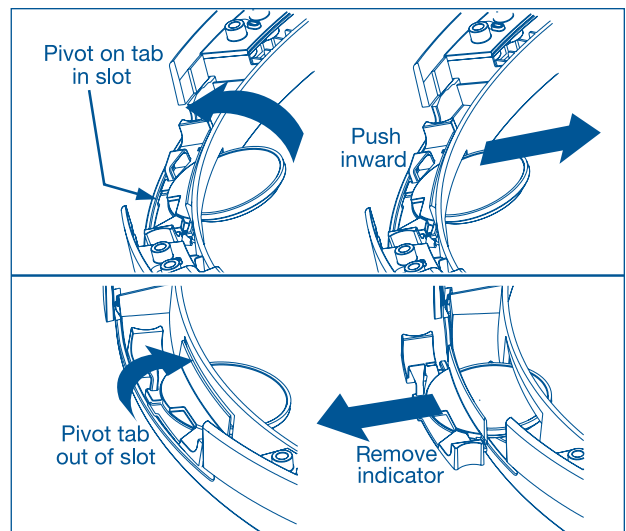

Figure 4-8.
4. Gently push the indicator toward the center of the lens to release the tab. (See Figure 4-8)
5. Rock the tab upward. (See Figure 4-8)
6. Pull the indicator out and remove from unit.. (See Figure 4-8)